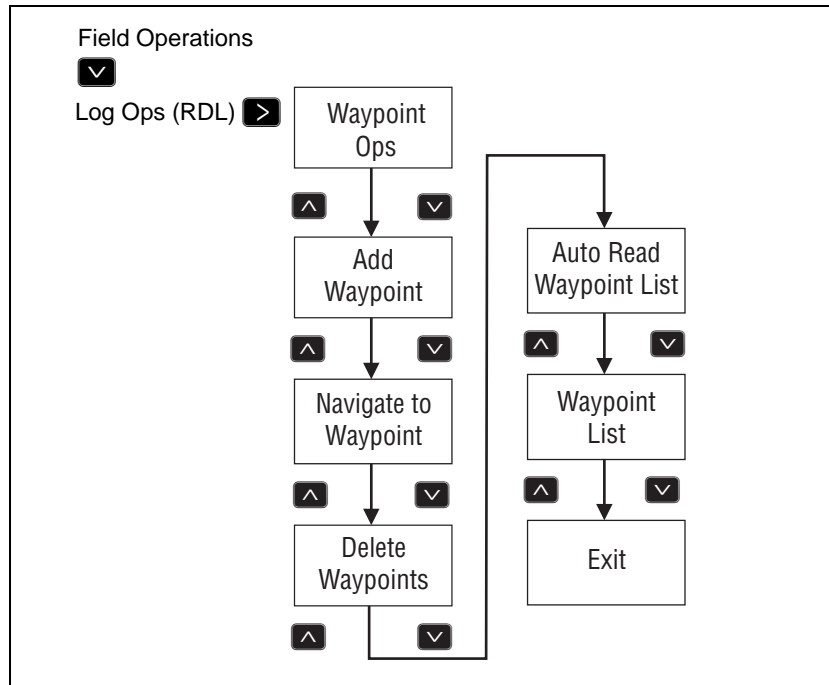

Figure 5.2 Waypoint Ops menu
Figure 5.2 shows the *Waypoint Ops* menu. Press the keys shown to view individual screens.
1. Navigate to the *Add Waypoint* screen. See Figure 5.2 on page 99.
1. Navigate to the *Navigate to Waypoint* screen. See Figure 5.2 on page 99.
1. Navigate to the *Delete Waypoints* screen. See Figure 5.2 on page 99.
1. Navigate to the *Waypoints List* screen. See Figure 5.2 on page 99.